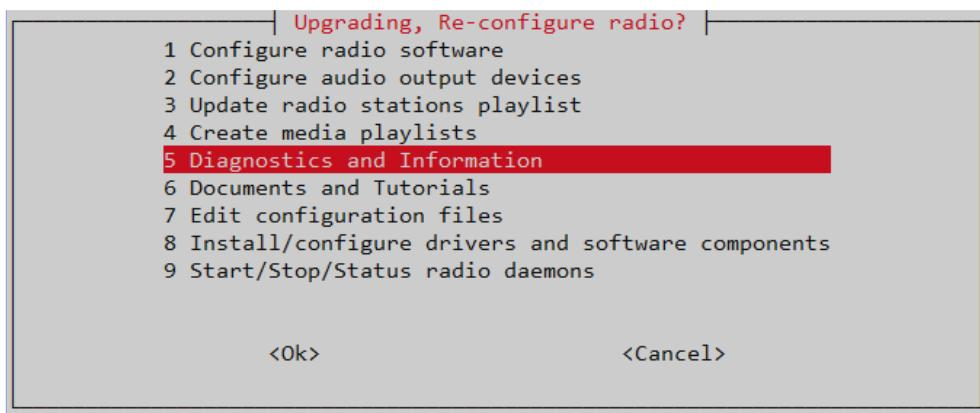

Figure 240 Diagnostics and Information menu
- Select option **1 Run the radio in diagnostic mode (nodaemon)** shown in *Figure 240 Diagnostics and Information menu* on page 202.
- Select option **2 Test rotary encoders** from the diagnostics menu. shown in *Figure 240 Diagnostics and Information menu* on page 202.
- Select option **2 Test rotary encoders** from the diagnostics menu shown in *Figure 240 Diagnostics and Information menu* on page 202.